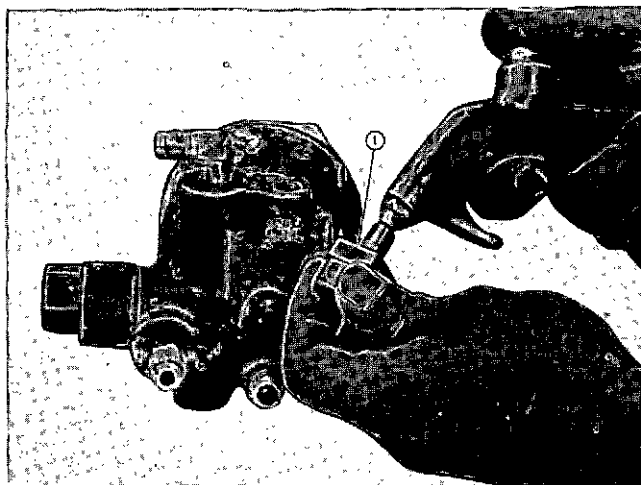

Fig. 10-3-5, N11021 Cleaning aneroid air filter
3. Check breather by reverse flushing with compressed air, reinstall aneroid breather (1, Fig. 10-3-5).